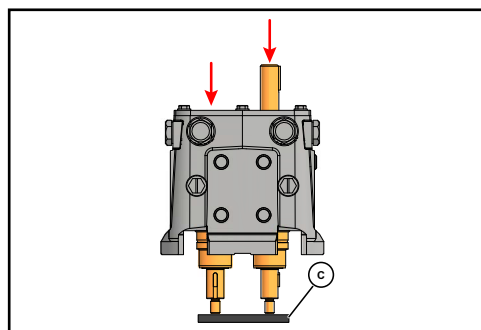

Figure 43 - Press Shafts from Gear Case
- Place the gear case on an arbor press with the liquid end facing down. Protect the shaft ends with a wood or plastic block (Figure 43, item C) and press the shafts out of the gear case.